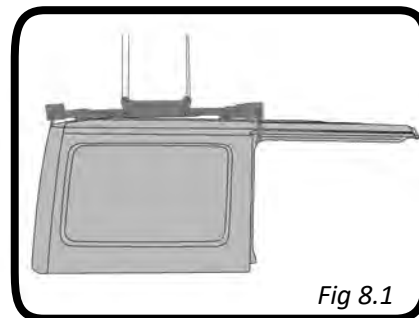

Fig 8.1
1. Unbolt the hard top from the vehicle and slowly lift it free. (*Fig 8.1*)